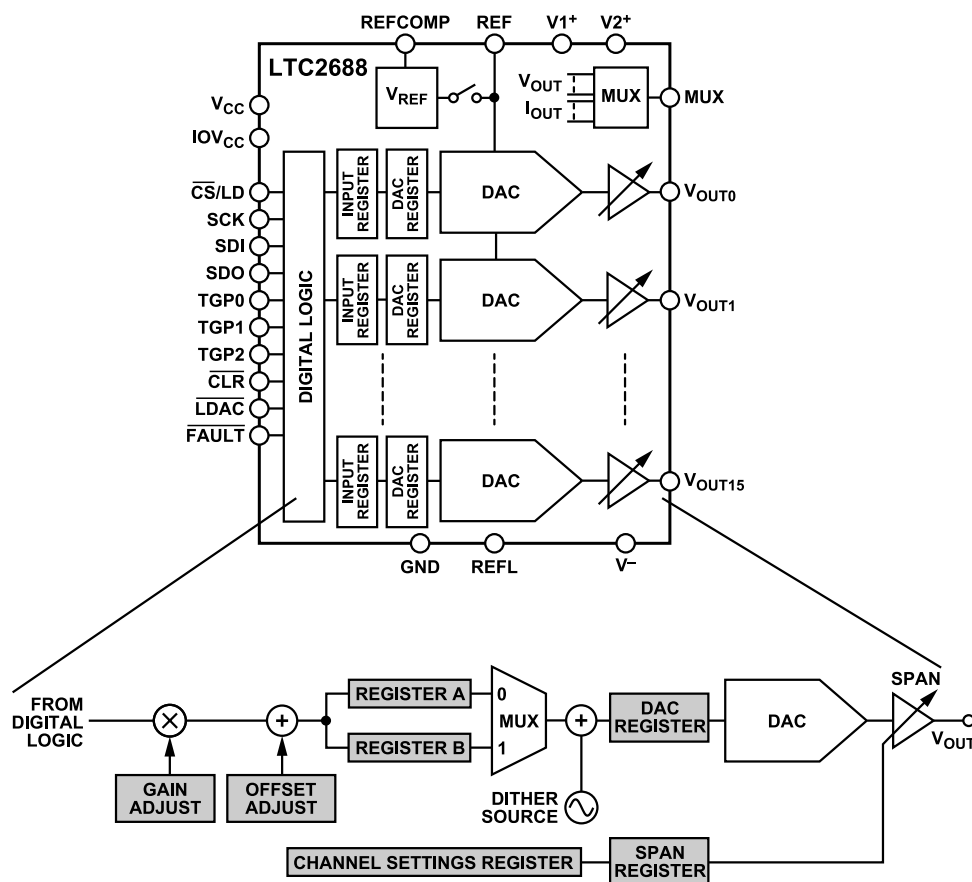

Figure 47. Block Diagram
- **Input register:** the write operation shifts data from the SDI pin into a chosen input register. The input registers are holding buffers. Write operations do not affect the DAC outputs directly. In the code datapath, there are two input registers, A and B, for each DAC register. Input Register B is an alternate input register used only in toggle and dither operation, whereas Input Register A is the default input register (see Figure 47).
- **DAC register:** the update operation copies the contents of an input register to its associated DAC register. The content of a DAC register directly controls the DAC output voltage or range. The update operation also powers up the selected DAC if it was in power-down mode. The datapath and registers are shown in Figure 47. Updates always refresh both code and span data, but the values held in the DAC registers remain unchanged unless the associated input register values have been changed via a write operation. For example, writing a new code and updating the channel updates the code, but the span is unchanged. A channel update can come from a serial update command, an LDAC negative pulse, or a toggle operation.